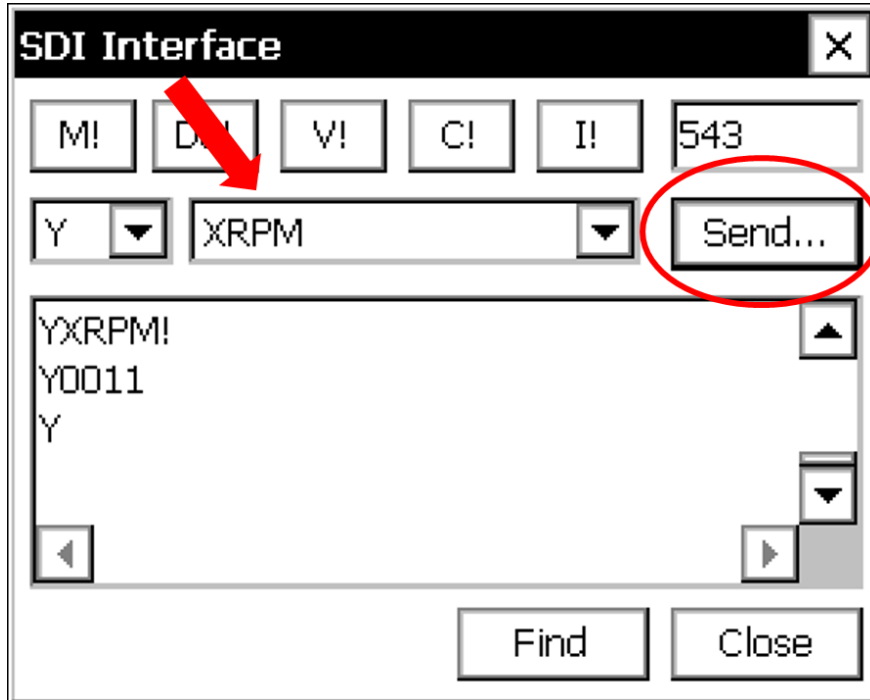

Figure 3-24. Type XRPM and click Send.
1. Make sure that **Y** is selected in the address drop-down box, and then type in the command to read the current power setting, '**XRPM.**' (fig. 3-24). Click the **Send** button.
1. In Xterm, return to the **Main** tab under the **Setup Access**. Click the **Start** button (shown in fig. 3-24); the hour glass icon will appear, and it may take a minute or two for recording to start.